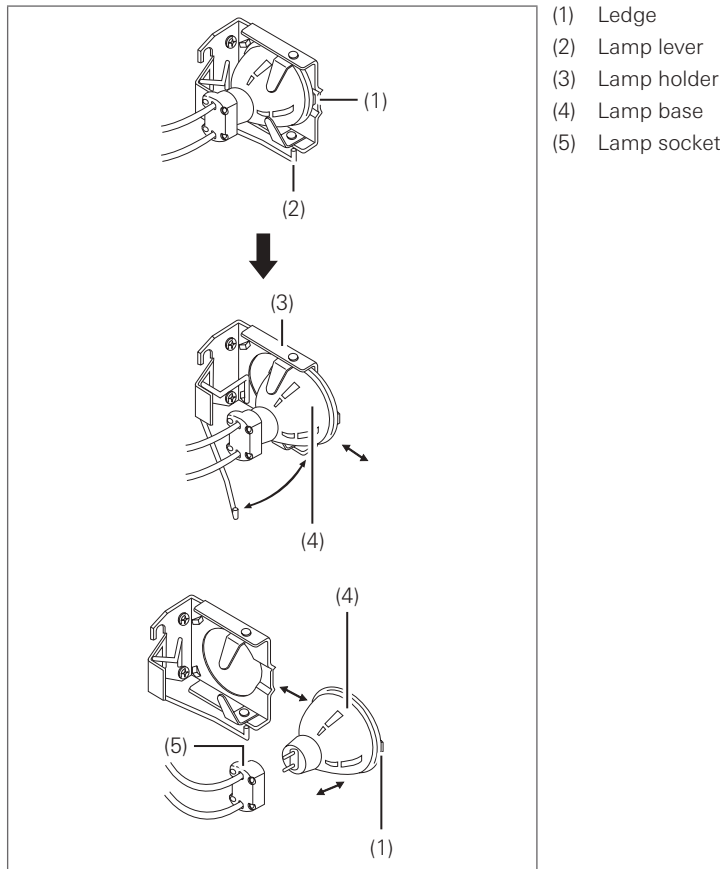

Figure 5.1
- Attach in the correct position. The ledge should be at the front as shown in the Figure 5.1.